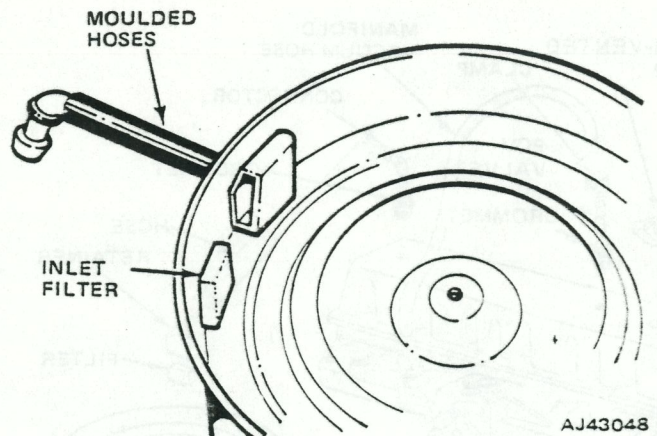

Fig. 1J-152 PCV Air Inlet Filter—Four- and Six-Cylinder Engines
- (1) Rotate retainer to remove from air cleaner (fig. 1J-152).